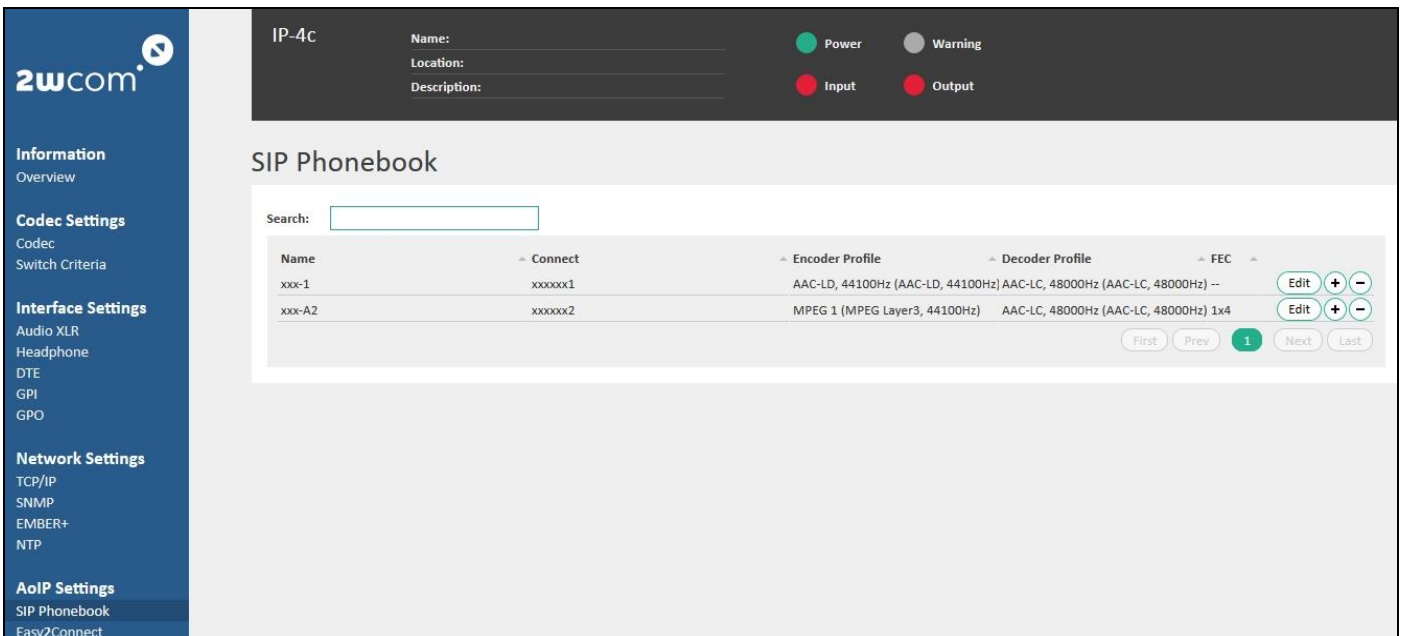

Figure 82: Configured SIP contacts for encoder and decoder
- ✓ You have already assigned the codec profiles to the SIP phonebook entries for encoder and decoder (see Figure 82).